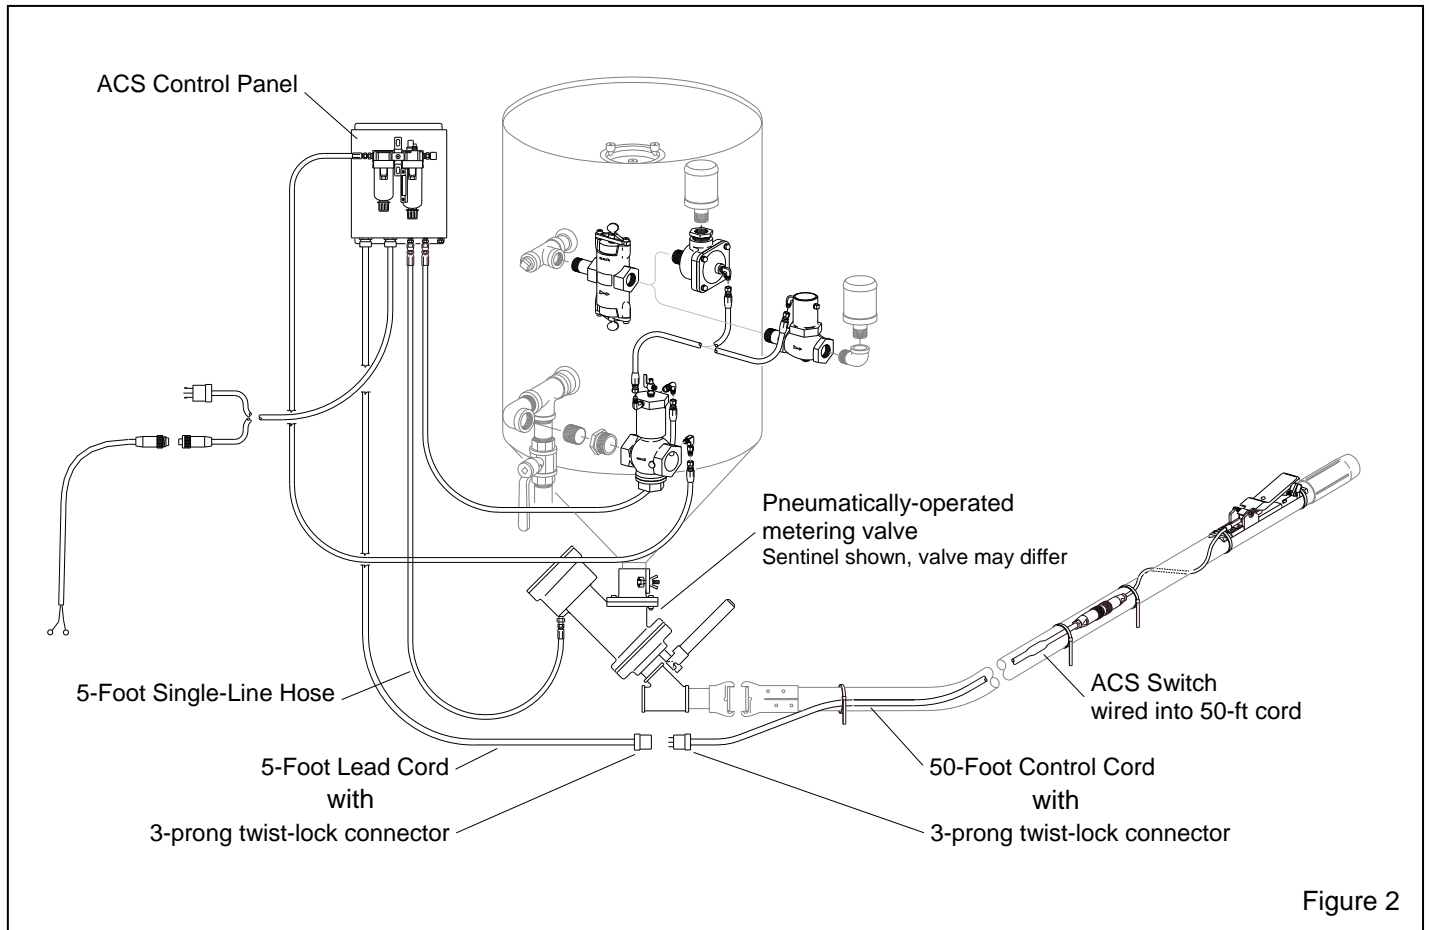

Figure 2
**1.3.4** Additional and substitute parts used with the optional abrasive cut-off systems (ACS) are shown in Figure 2. ACS systems include: an ACS control panel (Note standard panels cannot be used with ACS systems) 50-ft. control cord with switch, 5-ft. long hose, and a pneumatically-operated abrasive metering valve. The metering valve supplied with the system may differ from that shown but the air connection is the same. An owner's manual for the metering valve is supplied with the valve.
## **2.4 Optional ACS set up Ref. Figure 2.**